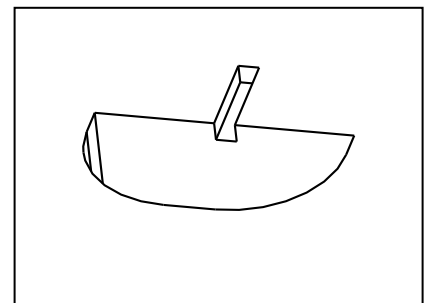

Fig. 2
2. Dig a narrow trench for the tubing (approximately 9 inches long x 2 inches wide). Fig. 2